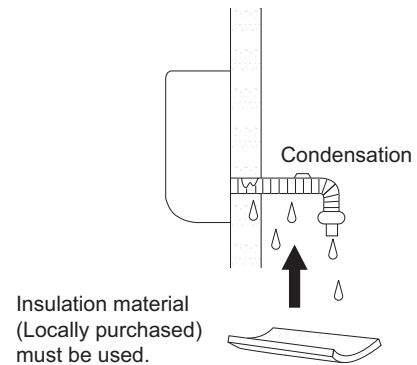

Fig. 2-230
- c) If the drain hose will run in the room, insulate the hose with insulation\* so that chilled condensation will not damage furniture or floors. (Fig. 2-230)